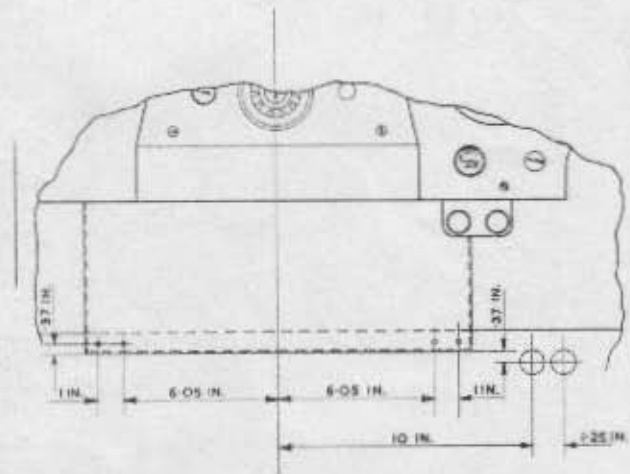

Fig.19. Modification to Battery Tray and Scuttle.
5. Referring to Fig.19, mark off the location of the four holes in the rear face of the battery tray and the two 1 in. diameter holes in the right-hand side of the scuttle.